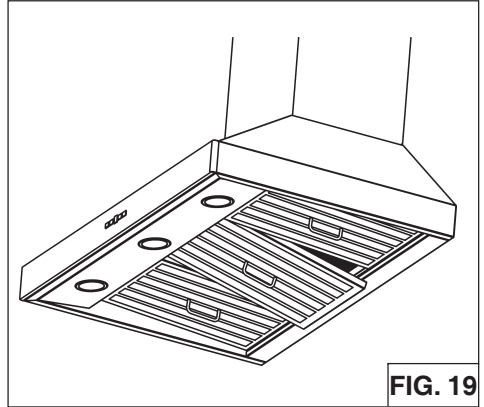

FIG. 19
1. To remove the GREASE filter, (Fig.19) push the filter towards the front so that it clears the filter channel, then pull down on the handle to disengage the filter from the hood. Tilt the filter downward and remove.